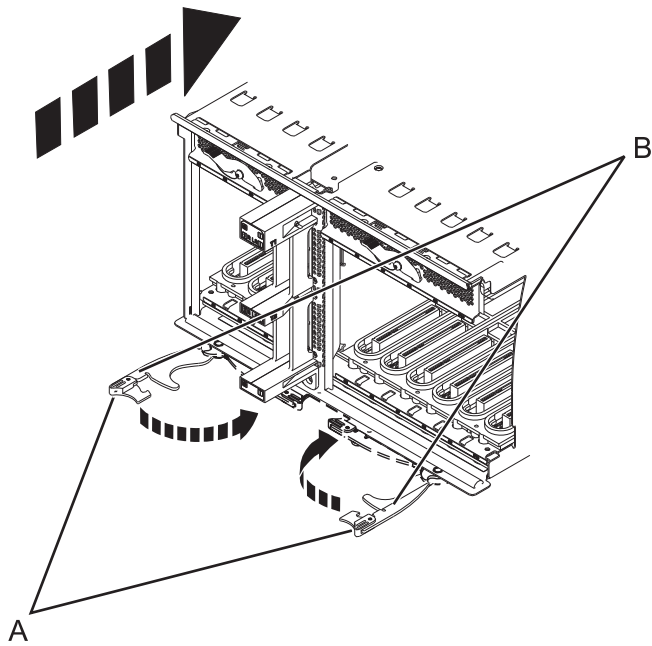

Figure 137. Install the I/O system board on a rack mounted model
- Insert the I/O system board firmly into the server, as shown in Figure 137 on page 161.
- Secure the I/O system board with the locking tabs (A), as shown in Figure 137 on page 161.